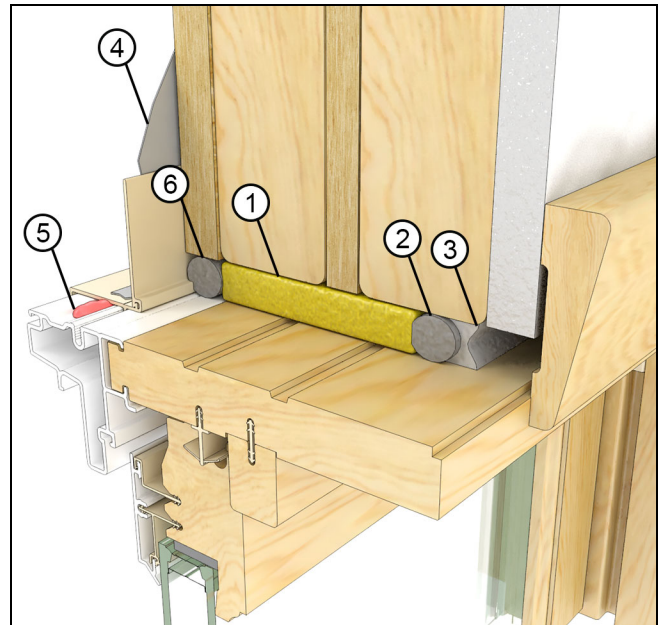

Figure 68
2. Low Expansion Foam. Install a backer rod at the exterior plane of the RO. Apply a low expansion/low compression closed cell foam in the cavity. Install a backer rod and sealant at the interior plane of the RO to create a continuous air seal. See Figure 68.